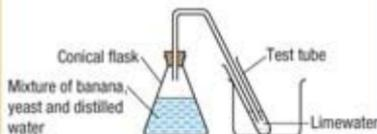

Figure 5.13
- Prepare the apparatus set-up (Figure 5.13).